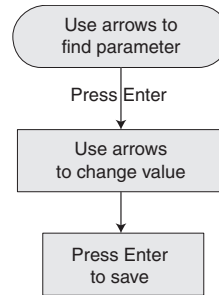

Figure 12 - Changing parameter value.
- B. Follow the keypress sequence shown in Figure 12:
The password locks or unlocks the blue buttons on keypad. All PENTEK INTELLIDRIVE units are shipped from factory with the default password 7777. It can be changed to any other 1 to 4 digit number. To reset password to a unique password for unit, unlock keypad (see below) and follow the keypress sequence shown in Figure 12 to make the change.